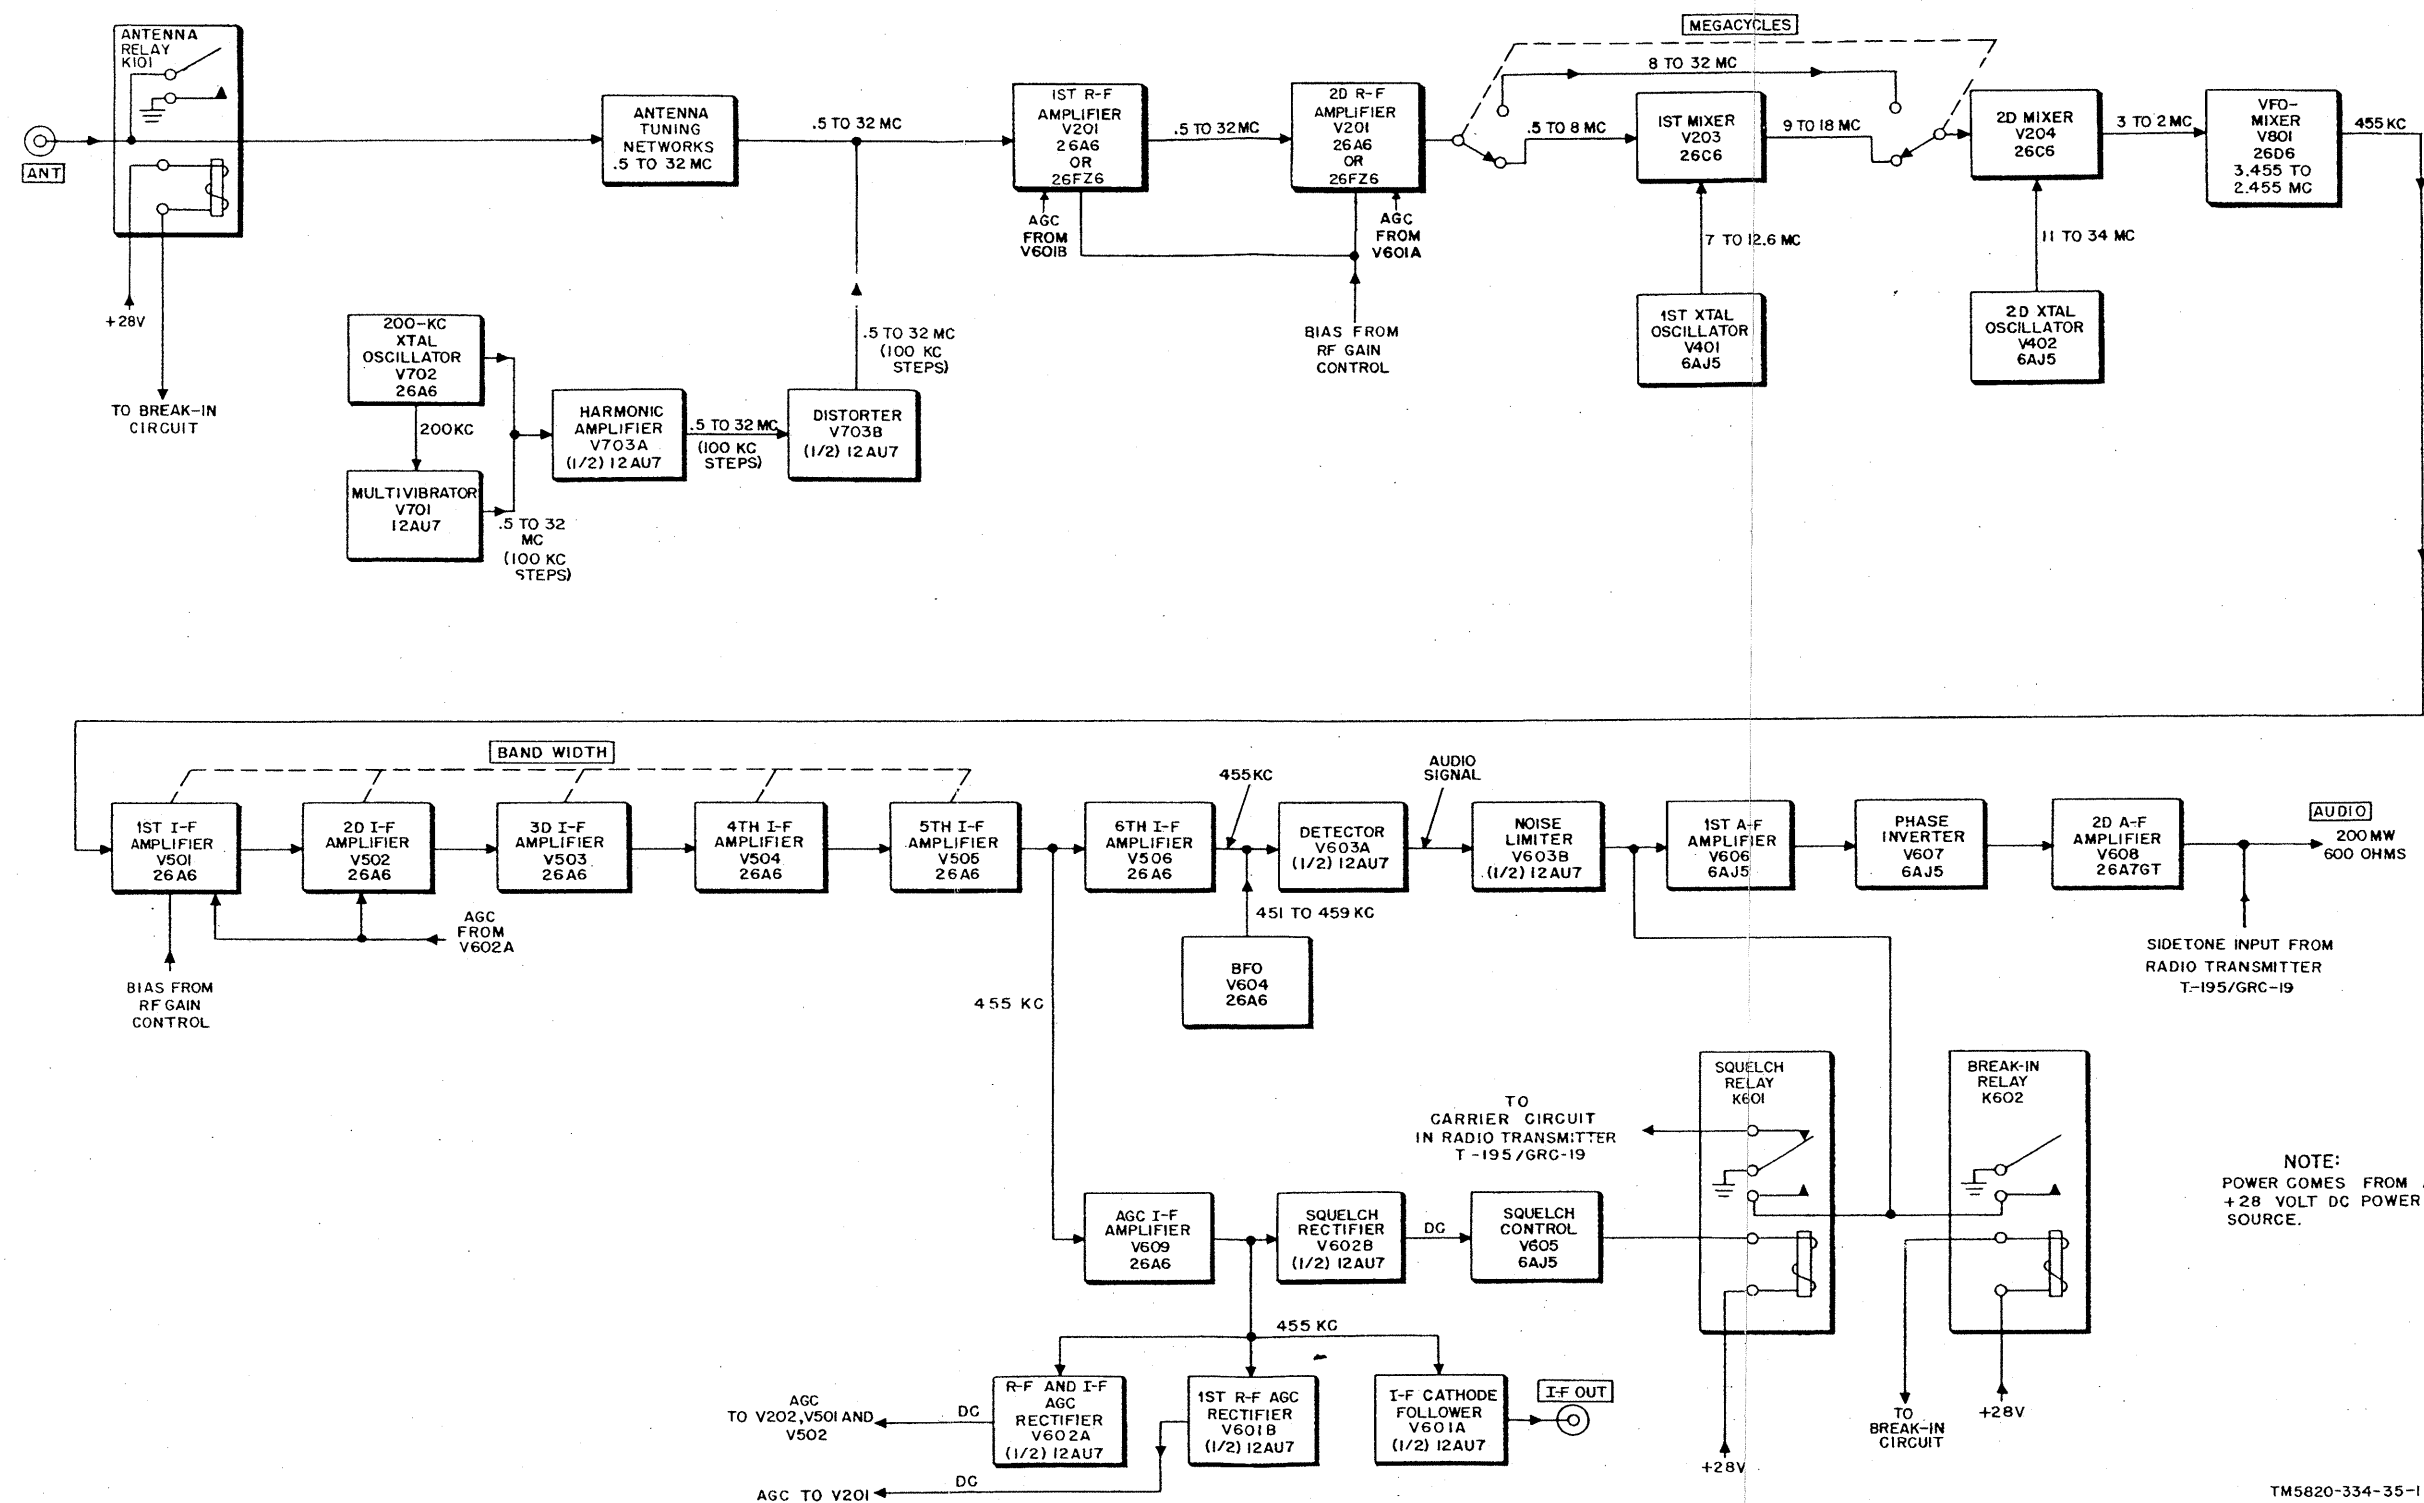

Figure 1. Radio Receiver R-392/URR, block diagram.
2. Block Diagram Discussion (fig. 1)
a. The circuit analysis follows the signal path established in the block diagram (fig. 1) and the overall schematic diagram (fig. 81). The circuit analysis is limited, in most cases, to operation on the 4- to 8-mc range, because all stages of the receiver are active on this range.